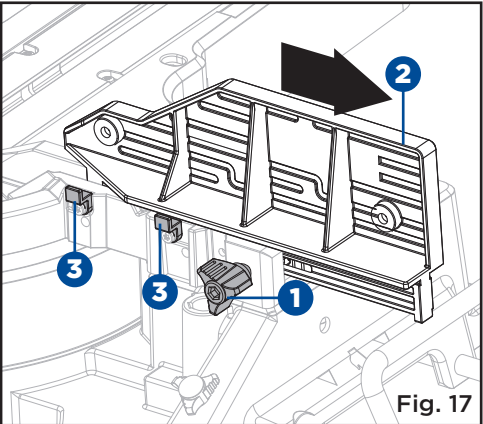

Fig. 17
**MOLETTE DE GUIDE ARRIÈRE (FIG. 17)**